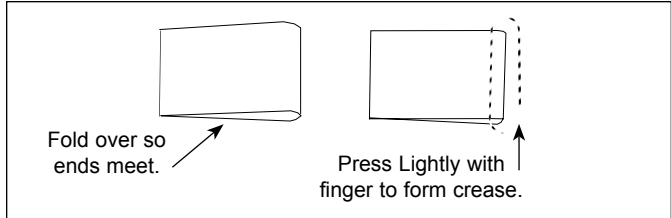

Figure 4. Folding The Release Sheet
3. Install the Release Sheet just as you would after daily cleaning (Figure 4).